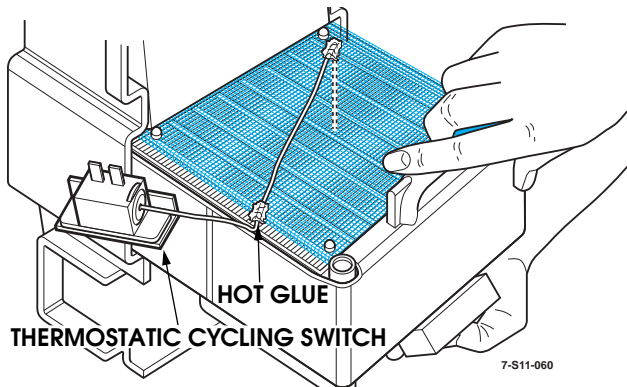

Figure 1-83: Evaporator Removal
21. Remove evaporator from unit (Figure 1-83).
22. Carefully remove capillary tube from evaporator, noting positioning in the evaporator fins (Figure 1-83).
4. Position thermostat capillary tube in the same location it was removed from on the original evaporator. It will be necessary to hot glue the tube near the exit hole (Figure 1-83).